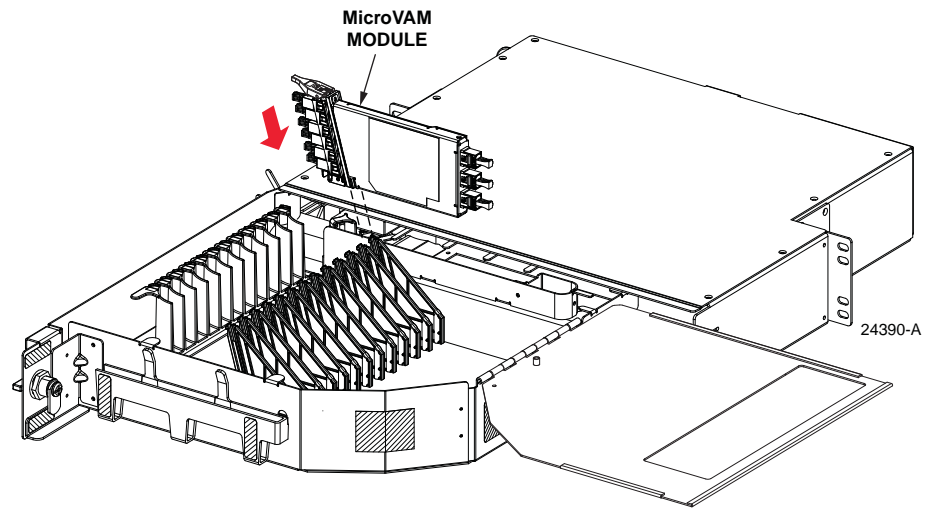

Figure 18. Installing a MicroVAM Module (12-Slot MicroVAM Chassis Shown)
2. Position the MicroVAM module at the selected mounting position as shown in Figure 18.